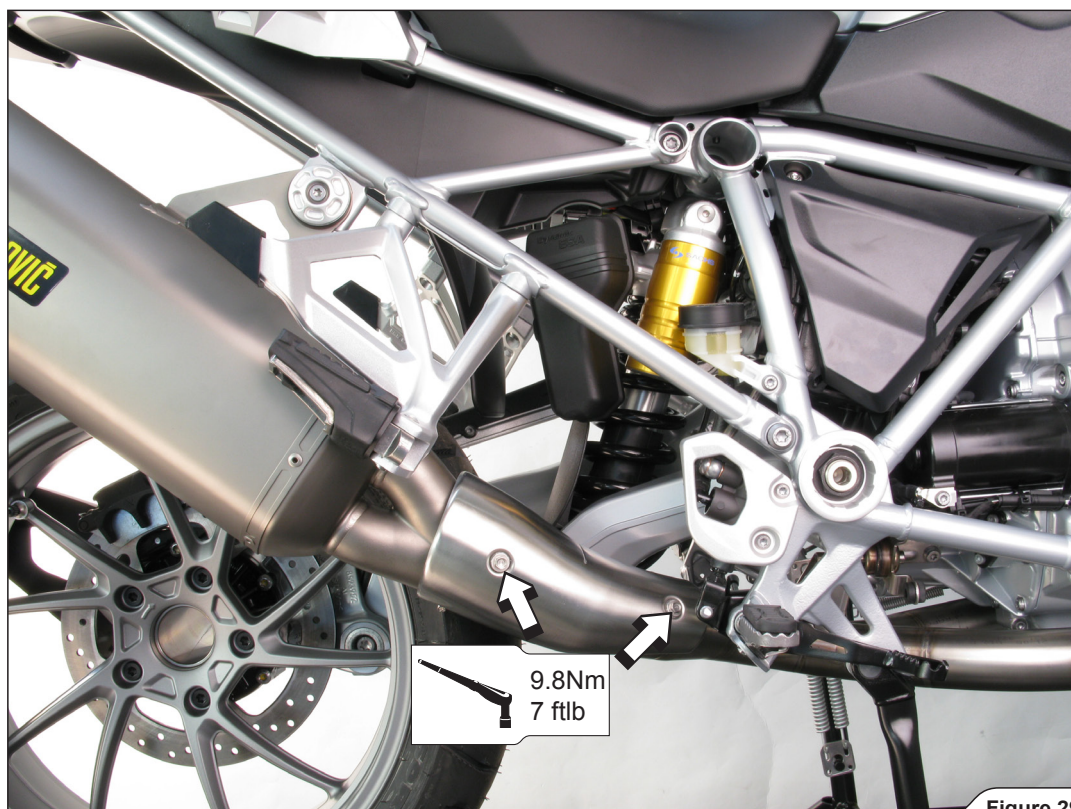

Figure 29
21. Align the heat shield in respect to the muffler's inlet pipe and collector. Tighten the heat shield's bolt and clamp to the specified torques (**Figure 29, 30**).